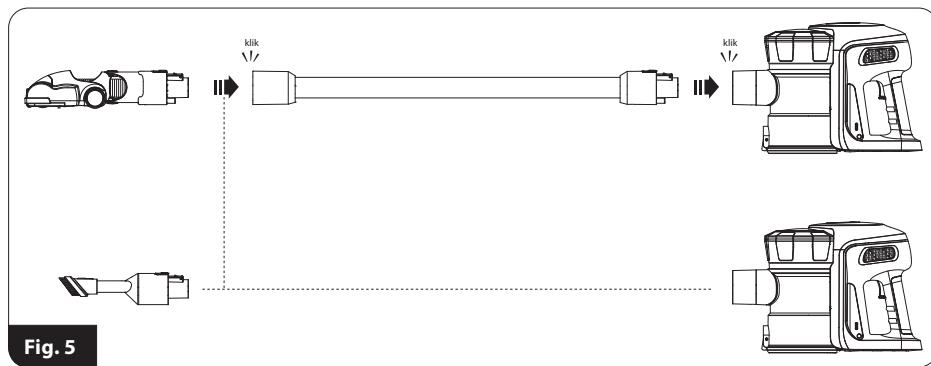

Fig. 5
5. Connect the suction pipe (17) or the appropriate equipment directly to the suction pipe socket (16) (fig.5). Removal of the pipe or equipment is only possible by pressing the lock release button (18), (20) or (23).